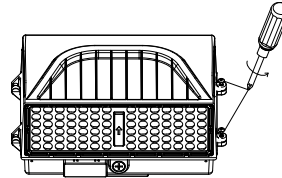

Figure 7
2. Use a Phillips-head screwdriver to loosen the two (2) screws on the right side of the fixture. (see Fig. 7)